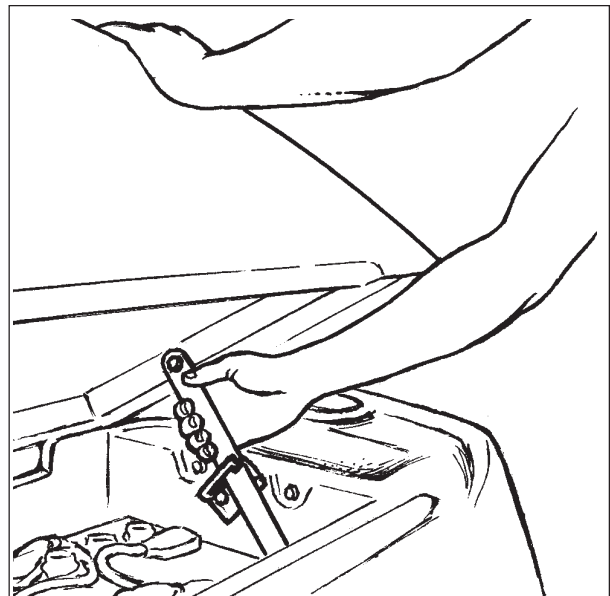

Figure 13
**NOTE:** There is an intermediate position available for holding the recovery tank open for charging batteries. See figure 13.
To place the tank in the intermediate position, pull up on the latch arm while raising the recovery tank until it slips into the notch area of arm. While pulling up on the latch arm, carefully lower the recovery tank making sure it is securely locked into place. See figure 13. To release the latch arm, tip the recovery tank up slightly while pushing down on the latch arm and then slowly lower the tank.